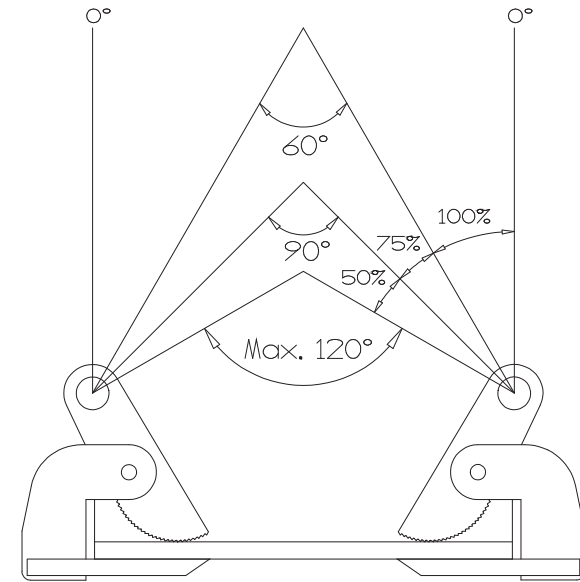

Figure 3: Never exceed fifteen degrees (15°) side load with an HL series clamp.
5. Never exceed fifteen degrees (15°) side load with an HL series clamp (Fig. 3).
WARNING: Never exceed 15° side loading with a HL series clamp (Fig. 3).